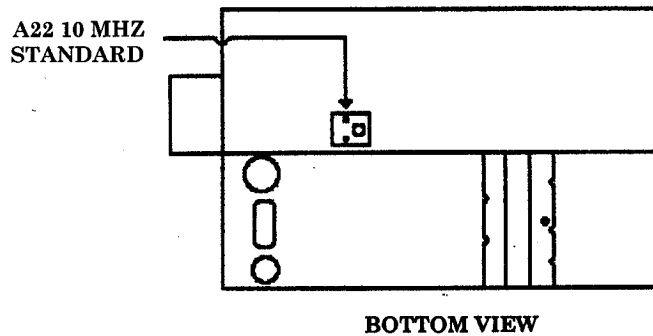

Figure 1. Frequency adjust.
(6) Remove A22 adjustment cover screws.
(7) Adjust A22 (fig. 1) for a minimum indication on the time/frequency workstation.
- (8) Check the drift after 24 hours. The drift will be  $<1 \times 10^{-9}$